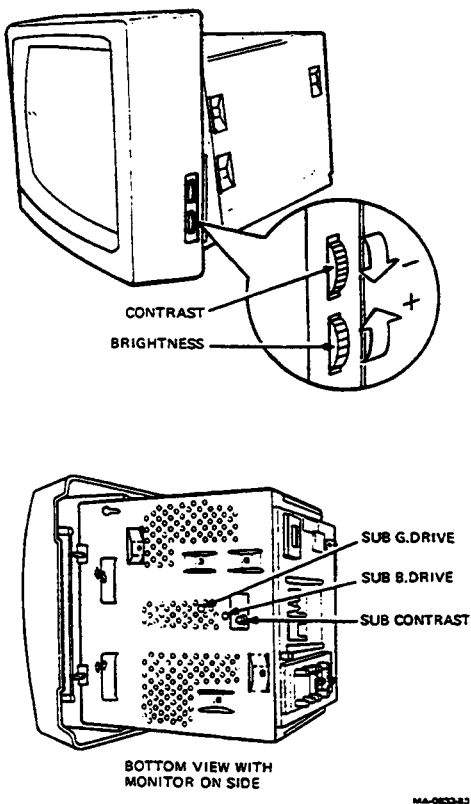

Figure 4-15 White Balance Presets (Part 1)
3. Vary the contrast control (Figure 4-15) between maximum and minimum.
5. Set the brightness control (Figure 4-15) to maximum.
4.3.14.1 White Balance Presets – Preset the white balance as follows. See Figures 4-15 and 4-16.